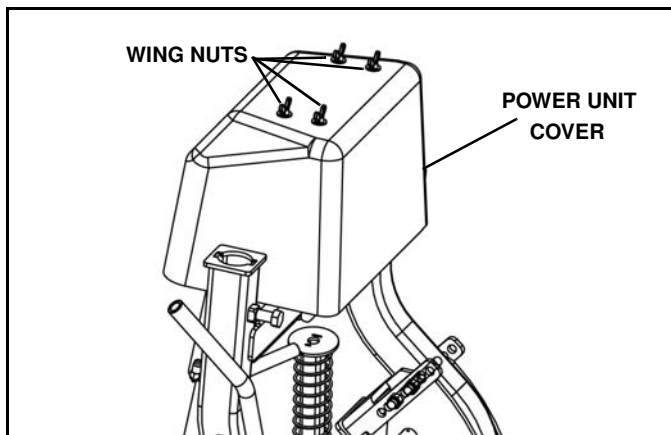

Figure 1-14
16. Remove four 5/16"-18 wing nuts and four 5/16" flat washers. Remove power unit cover. (See Figure 1-14).